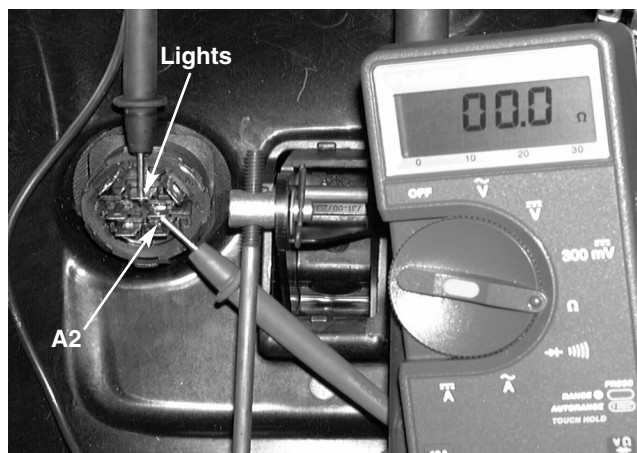

FIGURE 24.
–There will be **CONTINUITY**. See figure 24.